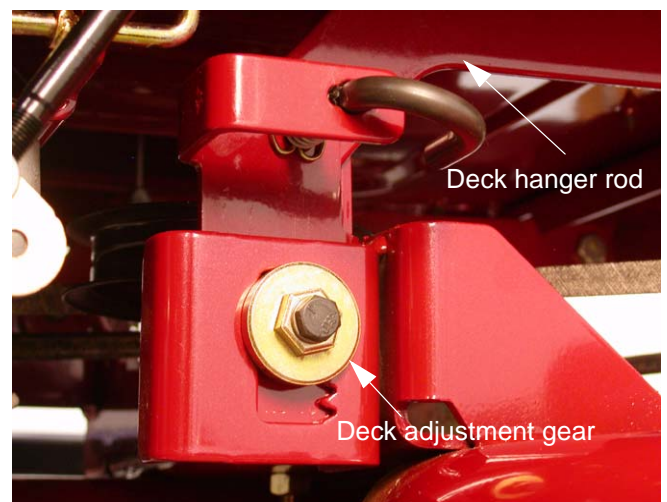

Figure 1.2
- 1.2. To level the deck, side to side, loosen the screw on the left side adjustment gear using a 1/2" socket. Using a 3/4" wrench, run the gear up or down as necessary until each outside blade tip is the same distance from the ground. See Figure 1.2.